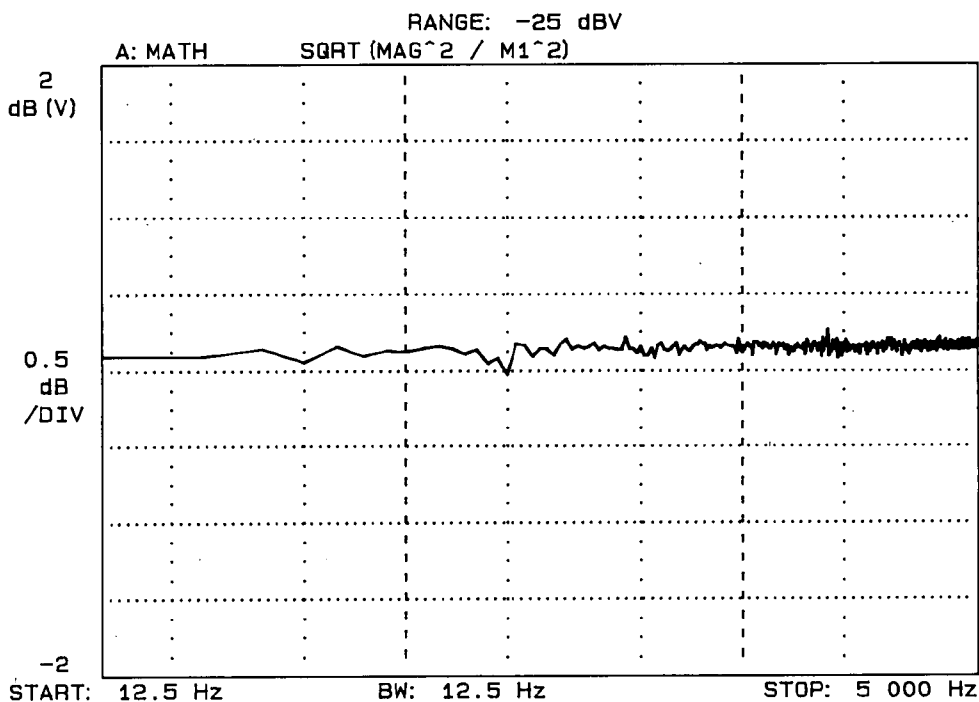

Figure 20. Typical Low-Noise Amplifier Impedance Match Adjustment
11. Adjust A4R51 as instructed. Refer to Figure 20 which shows a typical result after adjustment.
14. Adjust A4R70 as instructed. The result should be similar to the one in Figure 20.